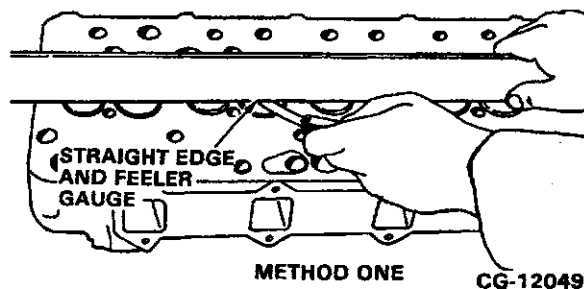

Figure 4.48. Measure Valve Recession — Method One
3. Check valve recession using a straightedge and feeler gauge or a surface gauge. Refer to Figures 4.48 and 4.49. Refer to "SPECIFICATIONS" for recession limits. If valve recession is excessive, install a new valve or replace the valve seat. If the valve protrudes above the deck, regrind the valve seat.